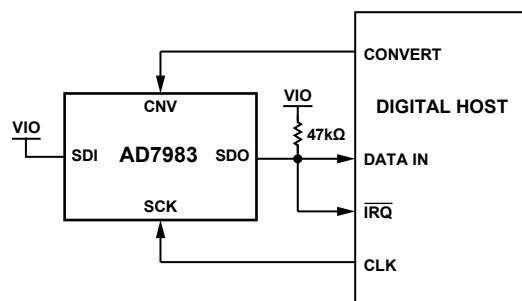
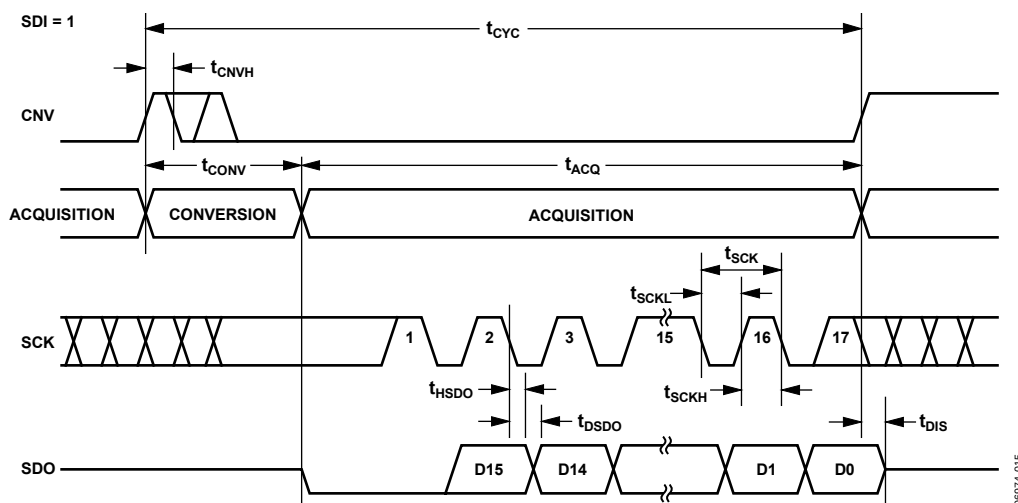
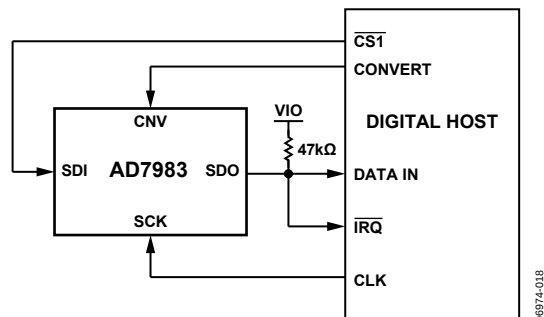
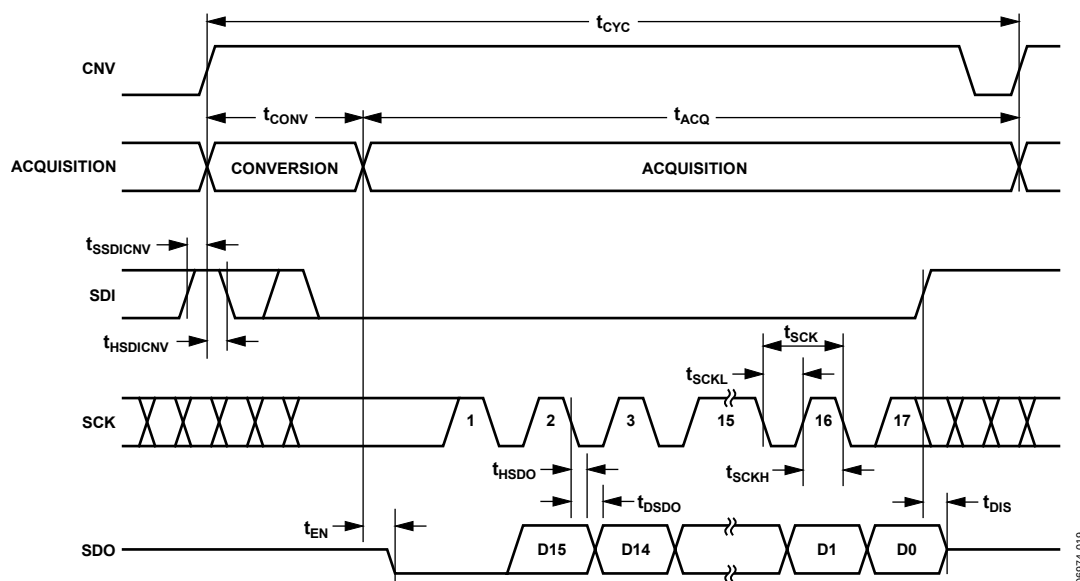

Figure 28. $\overline{\text{CS}}$ Mode, 3-Wire with Busy Indicator Connection Diagram (SDI High)
Figure 29. $\overline{\text{CS}}$ Mode, 3-Wire with Busy Indicator Serial Interface Timing (SDI High)
Figure 32. $\overline{\text{CS}}$ Mode, 4-Wire with Busy Indicator Connection Diagram
Figure 33. $\overline{\text{CS}}$ Mode, 4-Wire with Busy Indicator Serial Interface Timing
- In $\overline{CS}$ mode if CNV or SDI is low when the ADC conversion ends (see Figure 29 and Figure 33).
The connection diagram is shown in Figure 28, and the corresponding timing is given in Figure 29.
The connection diagram is shown in Figure 32, and the corresponding timing is given in Figure 33.